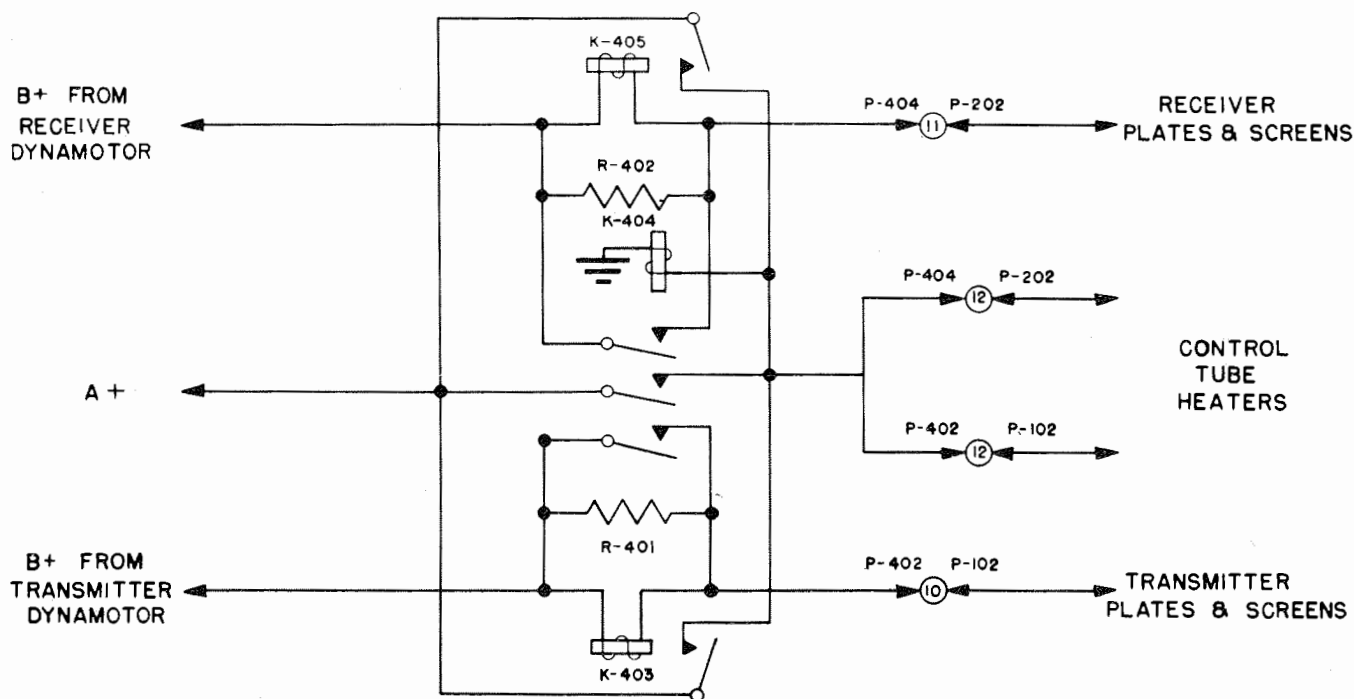

Figure 4-14. Radio Transmitter and Radio Receiver—Time Delay, Located in Power Junction Box J-68/ARC-3 or J-68A/ARC-3
1. When the other tubes are sufficiently heated to draw full plate current, relay K-403 closes. The closing of its contacts energizes relay K-404. (See fig. 4-14.)